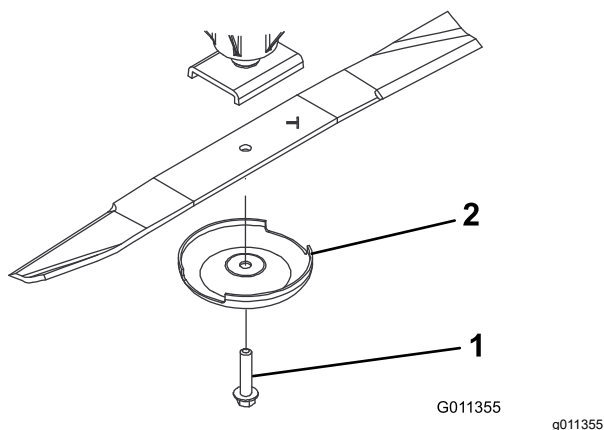

Figure 100
3. Remove the blade bolt, anti-scalp cup, and blade from the spindle shaft (Figure 100).